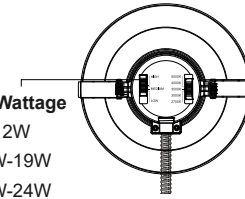

Fig. 3
3. Attach the carabiner safety clip to the existing fixture housing. (Fig. 3)